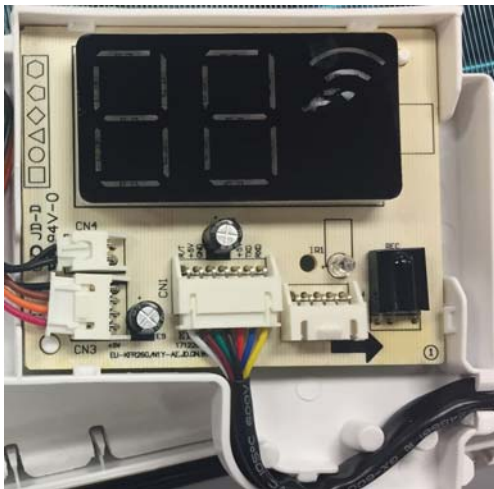

Fig. 4 – Connect the JST connector
6. Install the USB intermediate cable by connecting the white JST connector into terminal CN3 on the display board and route the wires (see Figure 4).